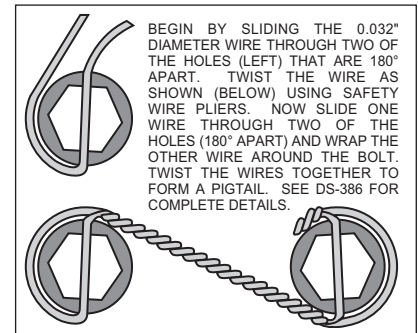

Figure 6. Safety Wire Diagram
•With the slot pointing upward and the mounting ears pointing towards the rear of the vehicle, install the caliper mounting bracket (1) to the housing flange using the stock Original Equipment Manufacturer (OEM) bolts and nuts. Stock OEM hex nuts that retain the bracket (1) should be on the wheel side of the bracket. Apply red *Loctite*® 271 to the stock OEM bolt threads and torque to OEM specifications.
•**NOTE:** Some brackets act as the bearing retainers, while others help locate the bearing in the axle housing flange. If the stock bearing plates are still on the axle, the caliper mounting brackets (1) should be located between the axle housing flange and the bearing retainer plate. Make sure the heads of the caliper mounting bracket insert nuts are FACING OUTWARD TOWARDS THE WHEEL.
•Bolt the hat (2) to the rotor (3) using washers (4) and bolts (5). Torque bolts (5) to 180 in-lb. Safety wire bolts (5) using standard 0.032 inch diameter stainless steel safety wire as shown in Figure 6.
•Align the correct hole pattern in the hat (2) with the stud pattern on the axle flange. **NOTE:** Some OEM and after market axles come with stud sizes larger than 0.50" diameter. Verify stud size and have a qualified machine shop drill the hats to the correct size. Slide the hat/rotor assembly (2 and 3) over the wheel studs and against the axle flange face.
•**NOTE:** Please reference the caution statement at the beginning of the assembly instructions. WITH THE BLEED SCREWS POINTING UP, mount the caliper (6) over the rotor (3) and onto the caliper mounting bracket (1) using washers (7) and mounting bolts (8). View the rotor through the top opening of the caliper. The rotor should be aligned in the center of the caliper. If not, adjust the caliper by using 0.032 inch shim washers (9), placing them between the caliper mounting bracket (1) and the caliper (6). Apply red *Loctite*® 271 to the mounting bolt threads (8), torque bolts to 30 ft-lb. Safety wire the caliper mounting bolts (8).
•Position the Wilwood disc brake pads (10) into the caliper (6) and fasten with cotter pin (11). Steel backing plate side of brake pad should face the caliper pistons.